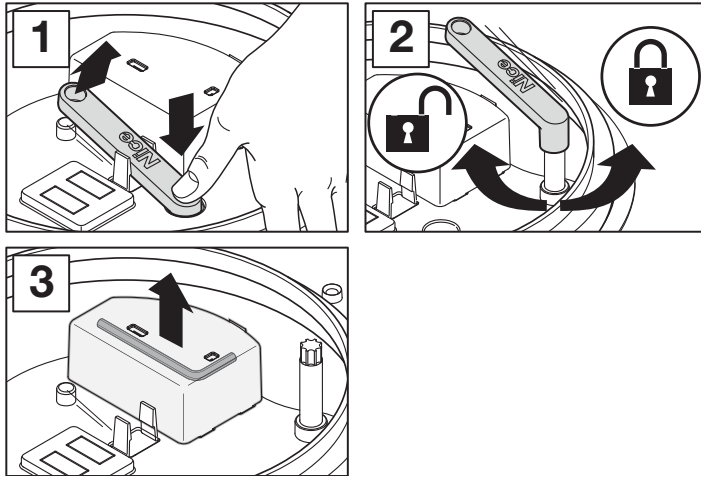
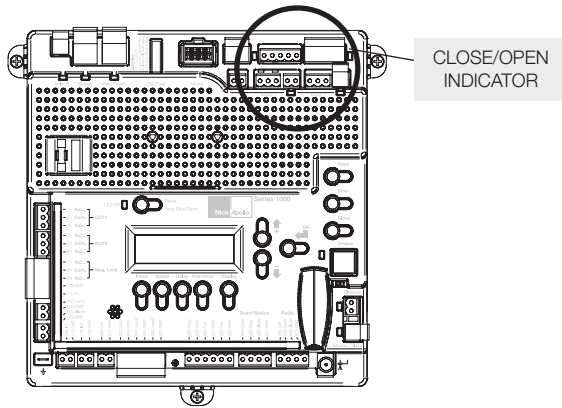
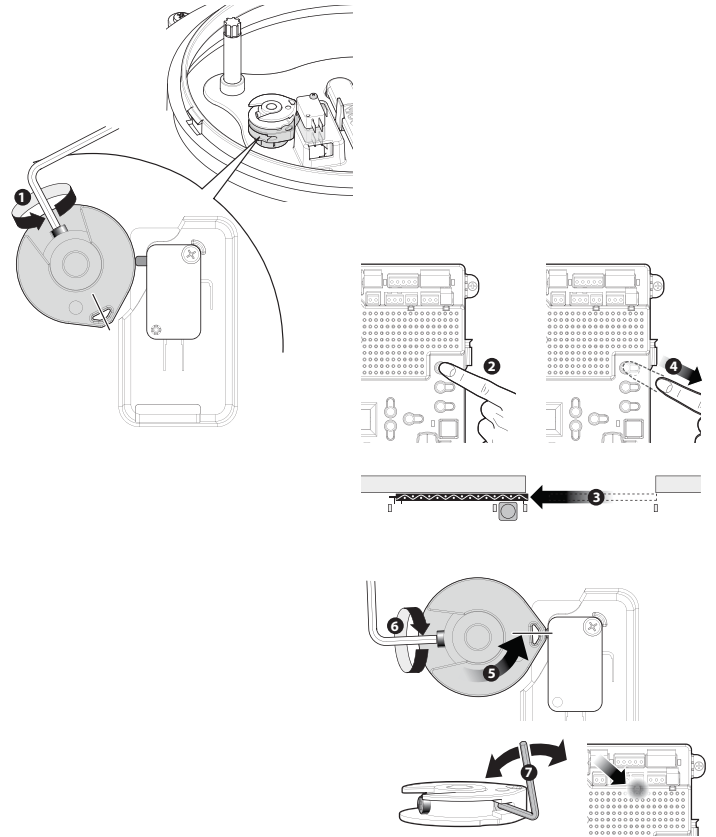
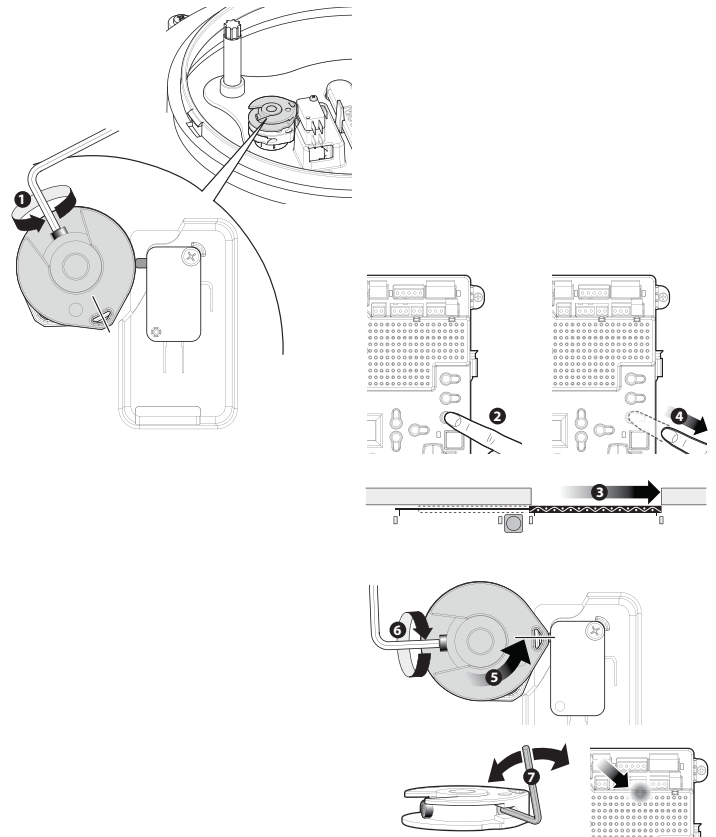

Figure 9 - MANUAL RELEASE
Figure 10 - INDICATOR LIGHT
Figure 11 - FULLY OPEN LIMIT SWITCH
Figure 12 - FULLY CLOSED LIMIT SWITCH
- Remove the Allen key inside the lid (phase 3 - fig. 9) and then loosen the grub screw of the cams (phase 4 - fig. 11) so that they can be turned freely by hand.
- Using the OPEN button on the front of the Control board, hold the OPEN button down until the gate reaches the fully open position or where the installer wants the gate to stop as FULLY OPEN (see figure 11). If the gate moves the wrong direction, refer to section 16.0 to reverse the direction.
To adjust the OPEN limit switch on the LOWER CAM (see figure 11) and adjust that Open Limit Switch CAM until the GREEN light (see figure 10) illuminates on the front of the control board. The FULLY OPEN limit switch is now set. Holding it firmly in place, use the supplied allen wrench to tighten the set screw.
- Using the CLOSE button on the front of the Control Board, hold the CLOSE button down until the gate reaches the fully intended closed position. Once the gate is in the FULLY INTENDED CLOSED position on the UPPER CAM (see figure 12) and adjust the CLOSED Limit Switch CAM until the RED light illuminates on the front of the control board. The FULLY CLOSED limit switch is now set. Holding it firmly in place, use the supplied allen wrench to tighten the set screw.
the gate to fine tune the exact stopping point. See step 7 in Figure 11 and Figure 12.